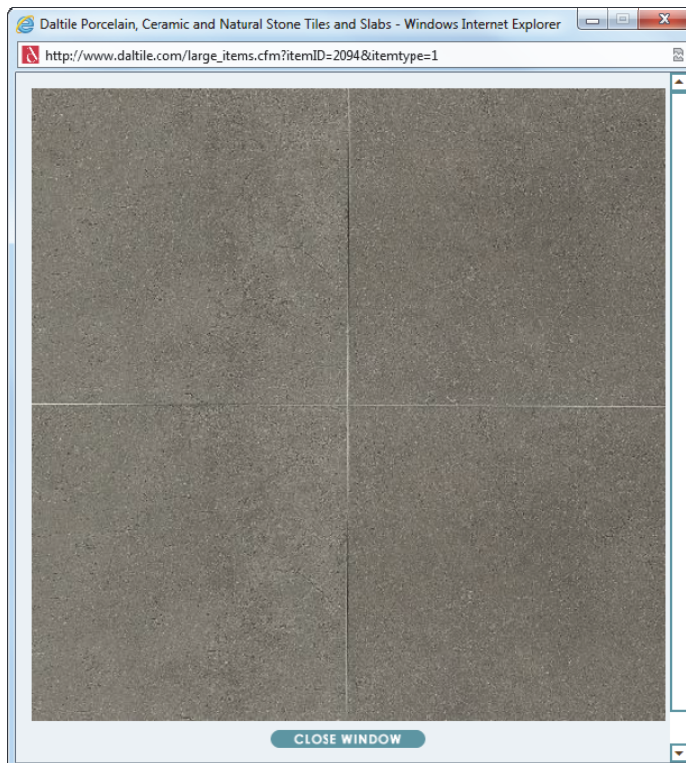

FIGURE 4-4.16 Large preview image from Dal Tile website
63. Select the small preview image to open a larger preview image (Figure 4-4.16).